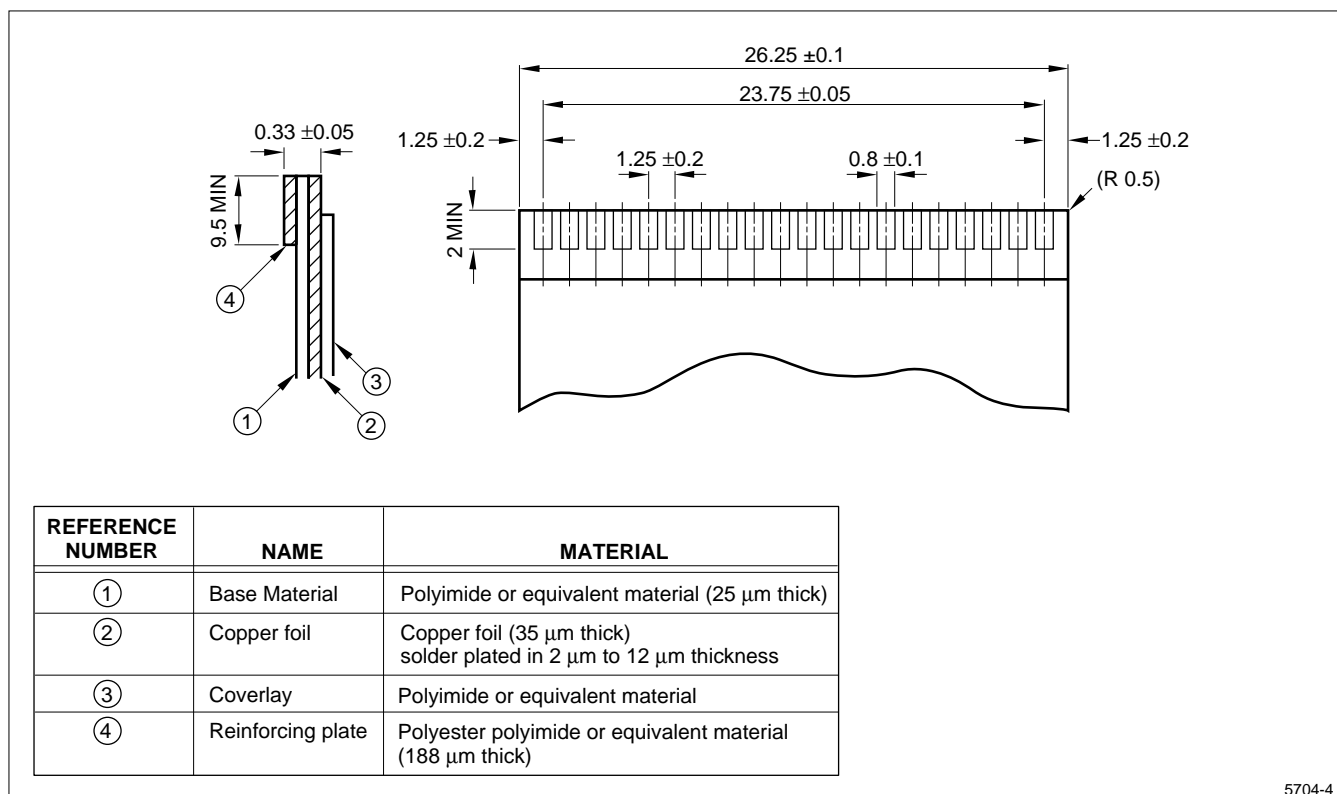

Figure 11. Applicable FPC For I/O Connector (1.25 mm pitch)
- Applicable FPC: Shown in Figure 11.